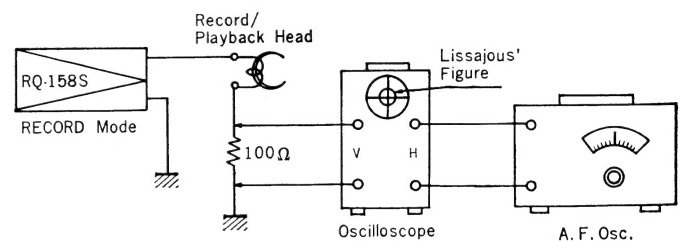

Fig. 3
Measuring Circuit: Refer to Fig. 3.
1. As shown in Fig. 3, insert a  $100\ \Omega$  resistor to ground lead wire of Record Head and connect vertical axis of Oscilloscope across resistor; connect horizontal axis of Oscilloscope to output terminal of AF Oscillator.